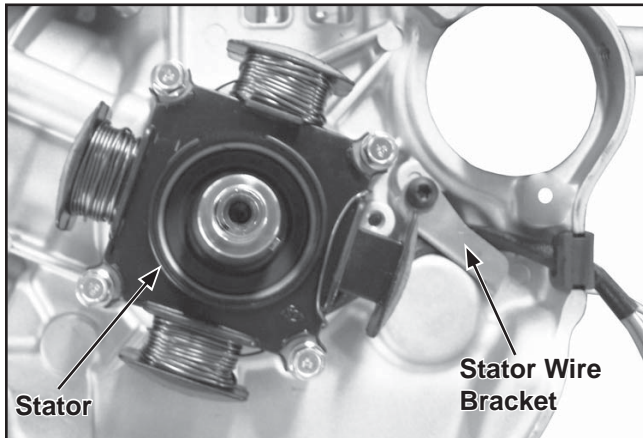

Figure 9-43. Remove Bracket and Stator.
1. Remove the screw securing the stator wire bracket and remove the bracket. See Figure 9-43.
2. Remove the hex flange screws securing the stator to the crankcase. See Figure 9-43.